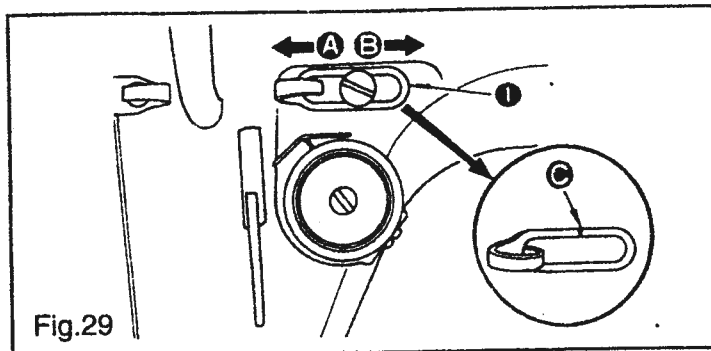

Fig.29
- ① Moving knife
- ② Center of needle
- ③ Standard:3 to 3.5 mm
25. ADJUSTING THE THREAD TAKE-UP STROKE (Fig.29)